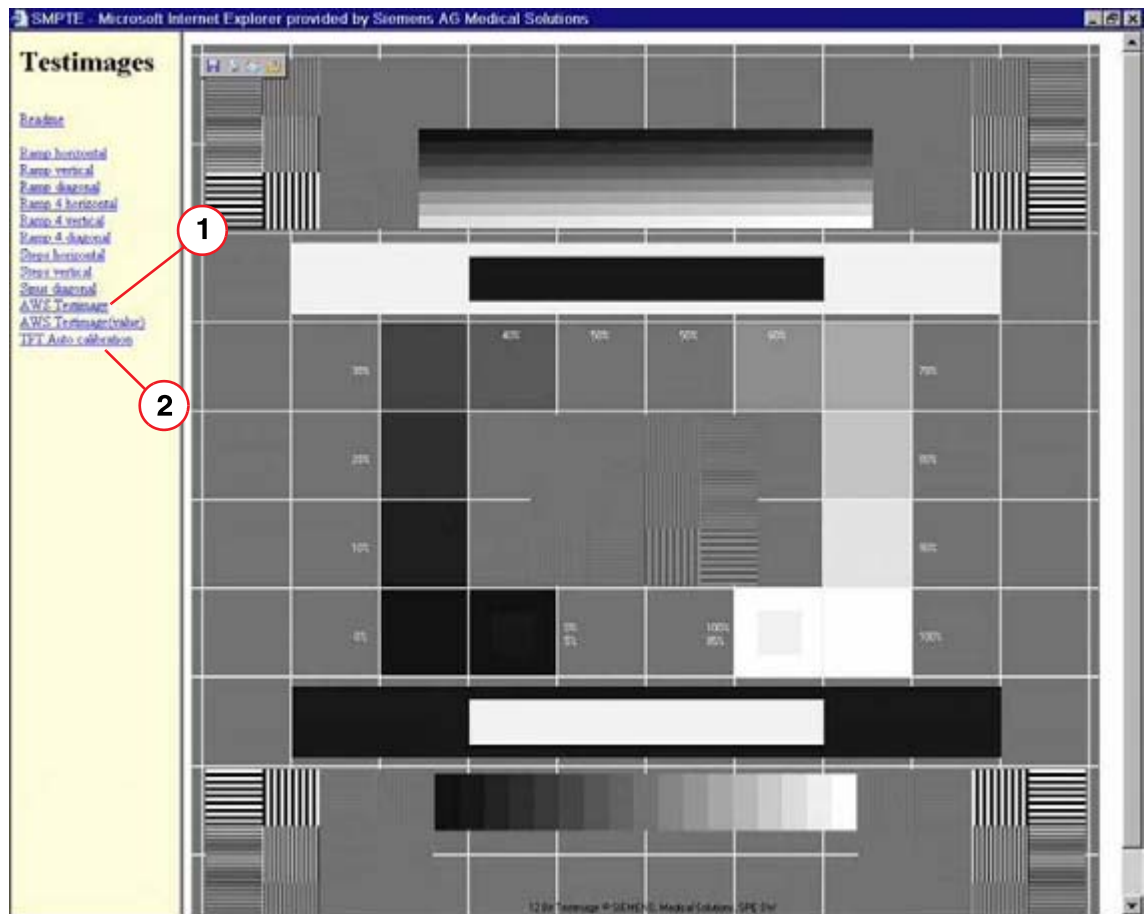
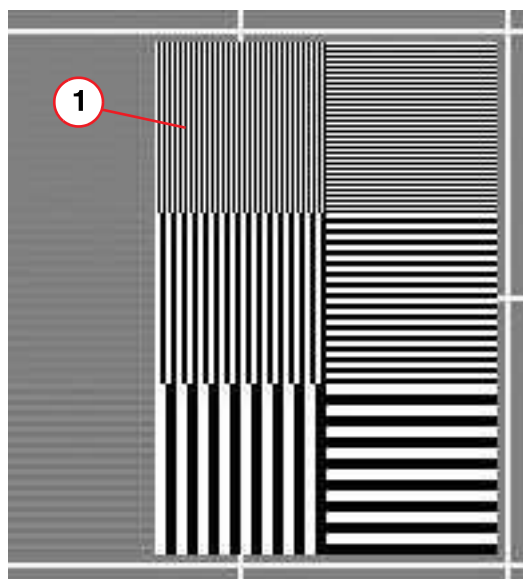
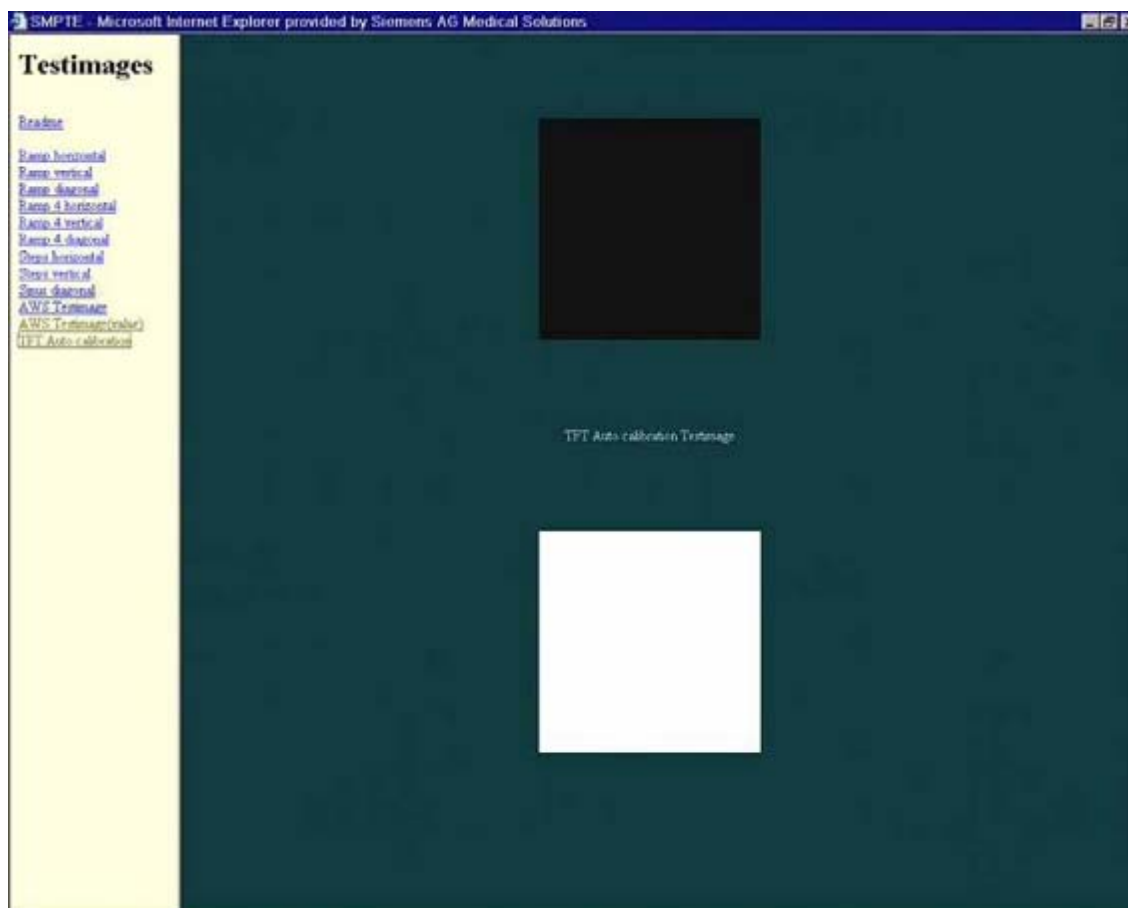

Fig. 13: Mammomat Novation DR - 6 Service SW
Fig. 14: Vertical bars on SMPTE
Fig. 15: Mammomat Novation DR -7 Service SW
- The adjustment is performed using the SMPTE test pattern (Fig. 13 / p. 19).
The region with the lowest horizontal resolution (vertical lines) must be displayed sharply, see (Fig. 14 / p. 19) or the green region (Fig. 15 / p. 20) must be displayed without disturbances or artefacts.
- Then check the frequency and phase using the test images (Fig. 13 / p. 19), (Fig. 15 / p. 20). If they are correctly adjusted, continue with the point (Brightness / Contrast / p. 21).
- Select the test pattern (Fig. 13 / p. 19).